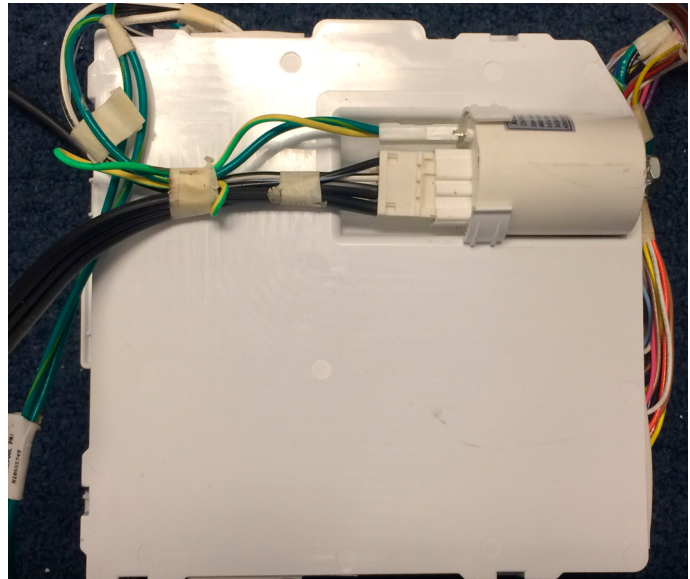

FIGURE 2: EM Filter on Orion Board Cover
3. Remove the EMI Filter from the plastic clip (FIGURE 2).